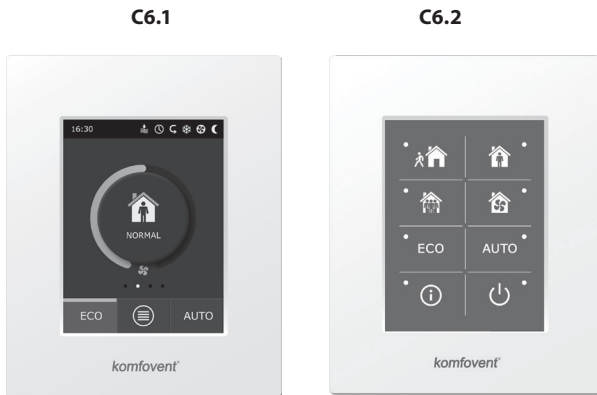

Fig. 2.1. Choice of control panels
The air handling unit can be operated by one of the following panels (Fig. 2.1).
* Only on the C6.1 panel (see Fig. 2.1).